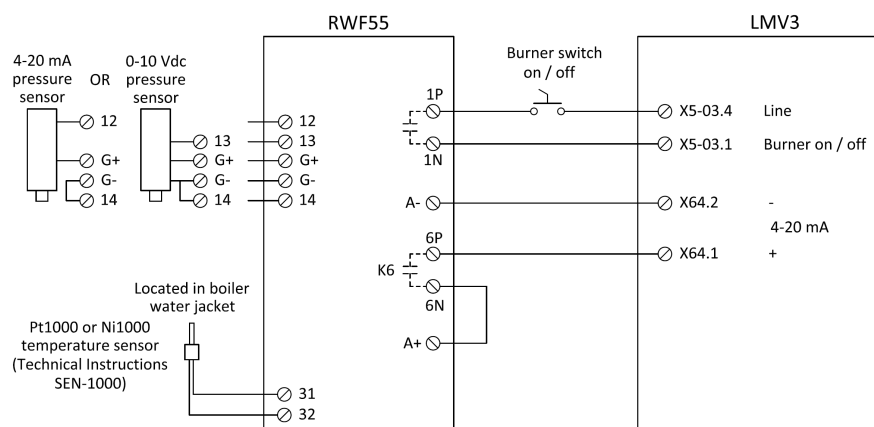

Figure 3: Low Fire Hold via Analog Output on a Steam Boiler
3. Wire the LMV3 and RWF55 as shown in Figure 3: